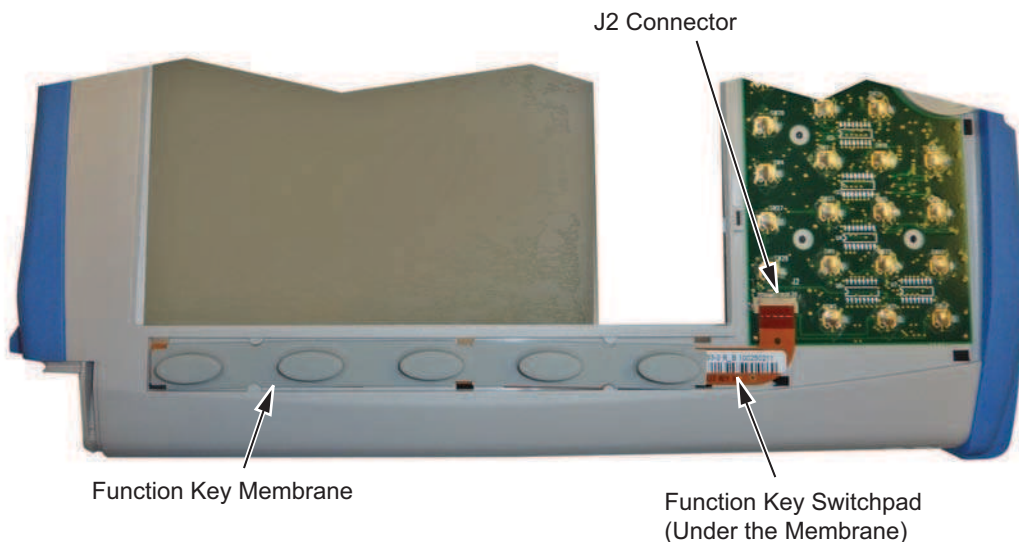

Figure 5-11. Keypad PCB
During reassembly confirm that the socket connector on the Main PCB aligns with the connector pin on the Keypad PCB shown in Figure 5-11 on page 5-10.
- Disconnect the function key flexible switchpad from J2 of the keypad PCB by carefully lifting the locking tab on connector J2 to release the flexible switchpad (Figure 5-11).